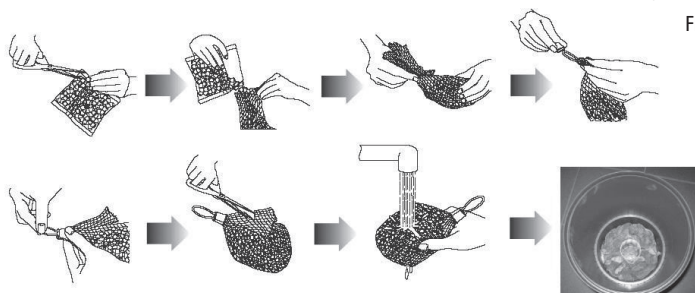

Fig. 2
- The Biological Media must be placed in the Filter Case as indicated in the picture (except Pressure-Flo 1000/3000 UV-C)(Fig. 2).